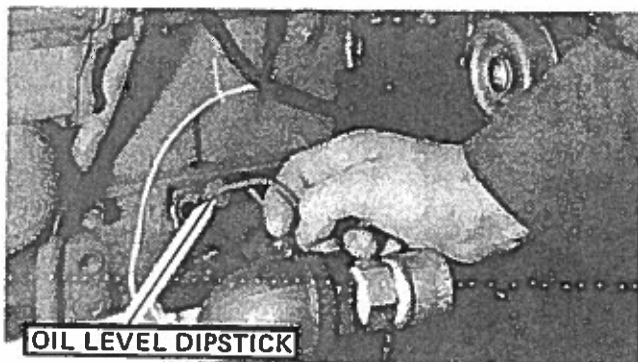

FIGURE 37
2. Withdraw the dipstick, see **FIGURE 37**, and wipe it with a clean rag. Replace it fully and withdraw again. The mark made by the oil on the dipstick scale will indicate the engine oil